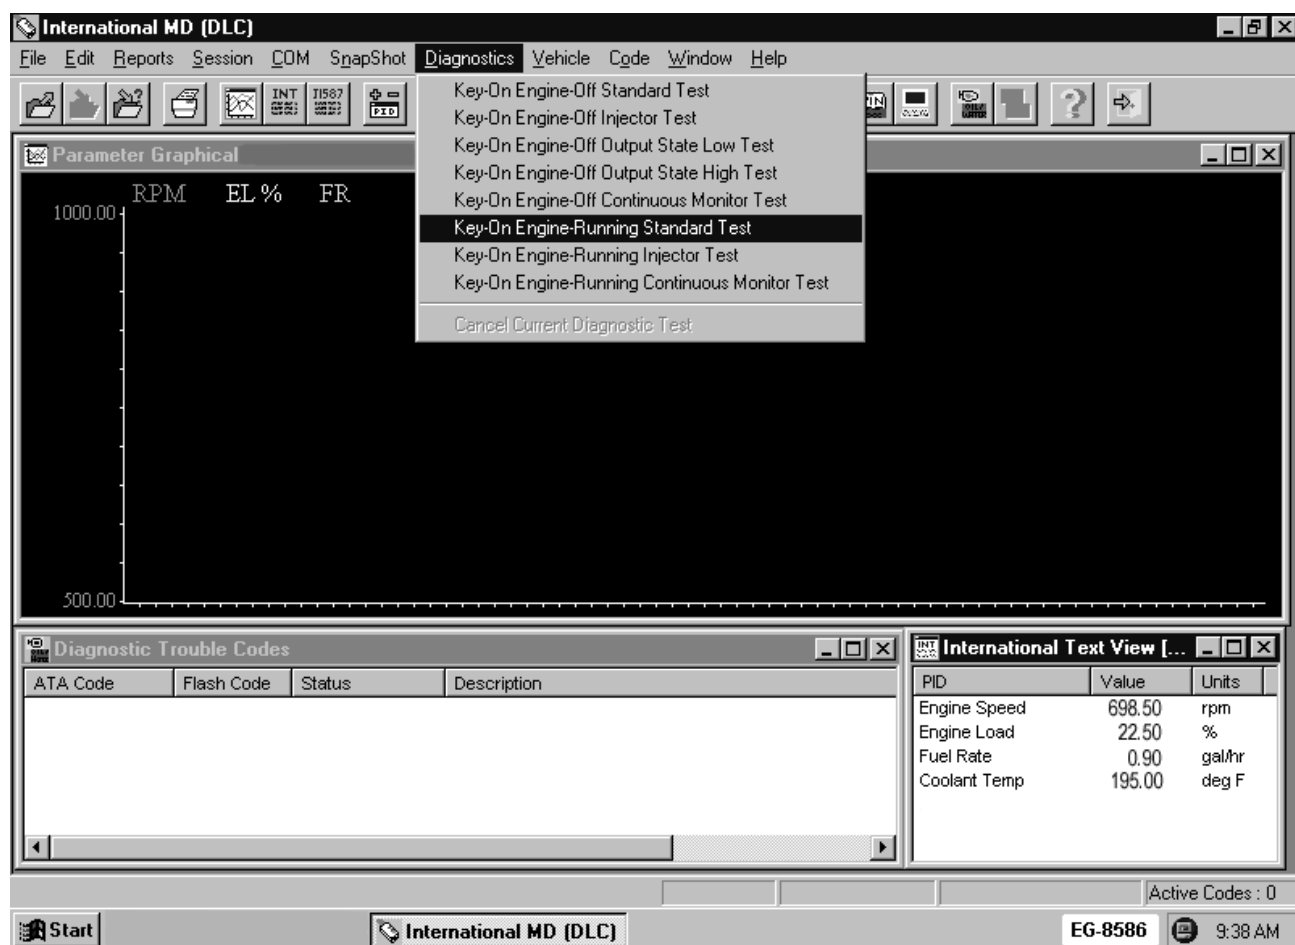

Figure 171
- It is essential to run the **Key-On Engine-Running Standard Test** in order to gain access to cylinder contribution testing. Select the **Diagnostics** drop-down menu bar, then select the **Key-On Engine-Running Standard Test** (See Figure 171, page 366).